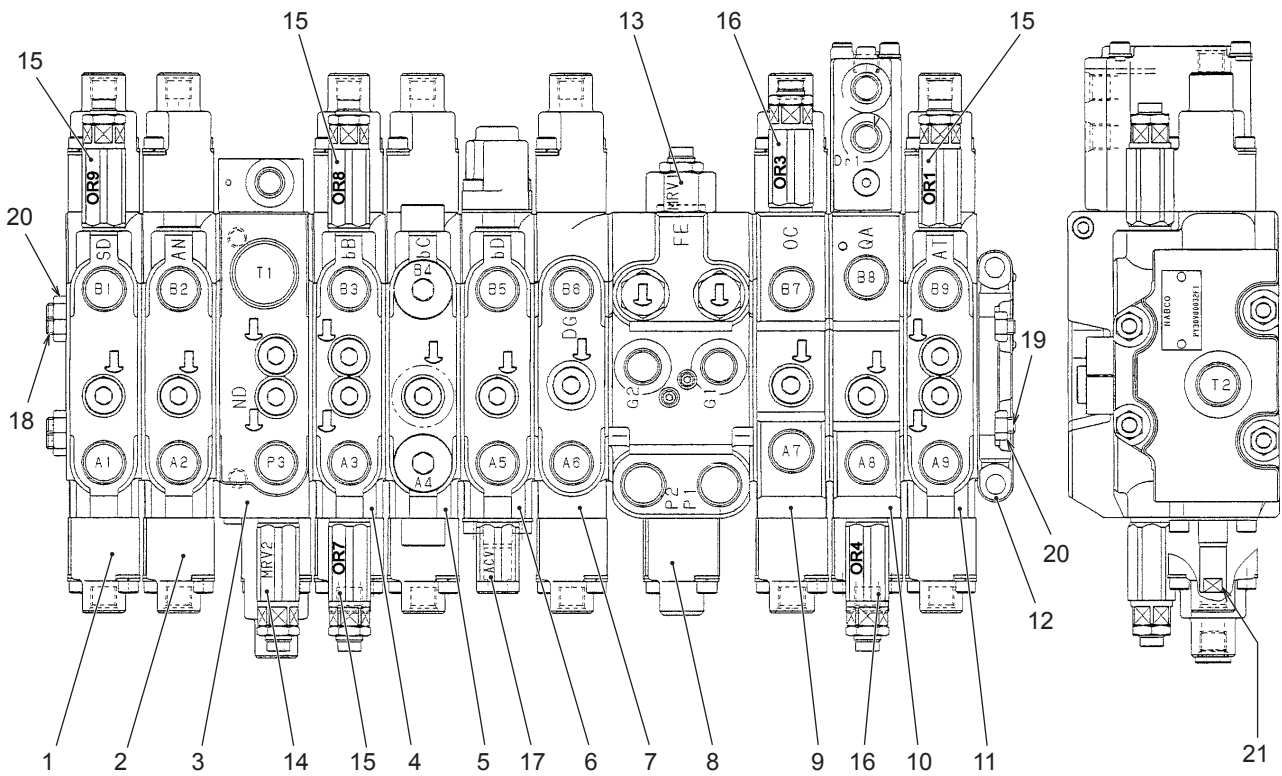

Fig. 33-79
- 1) Assembling the main frame of the switching section (See Fig. 33-79).